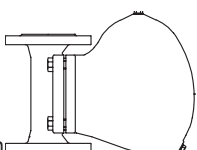

Fig. 630
(Fig. 630....1)
(Fig. 630....2)
(Fig. 630....3)
(Fig. 630....4)
- Controller with integrated automatic ventilation (except Fig. 630)